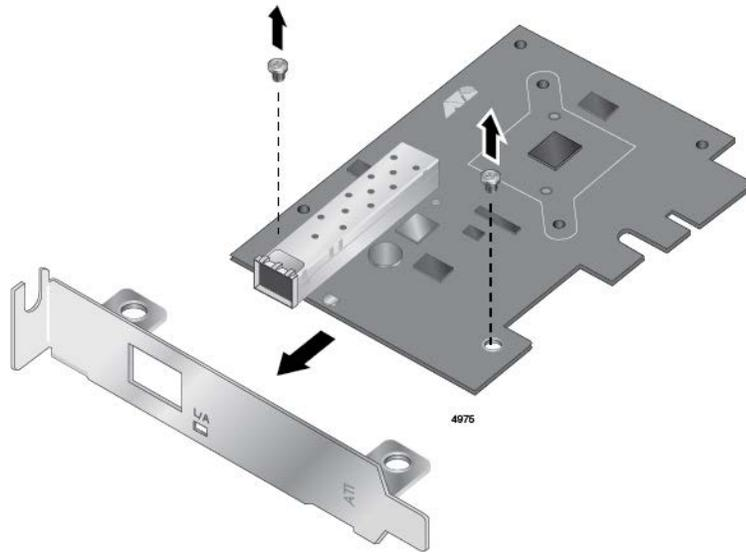

Figure 7. Removing the Low-Profile Bracket
1. Remove the screws that attach the bracket to the network adapter. See Figure 7.